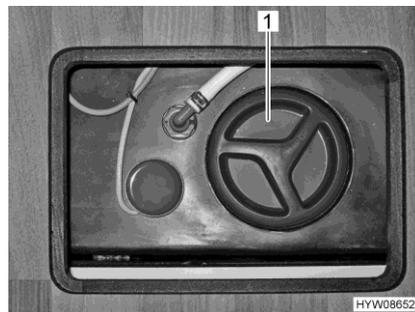

Fig. 171 Cleaning opening (waste water tank)
- Open the cleaning opening (Fig. 171,1) on the waste water tank and the drain cock.